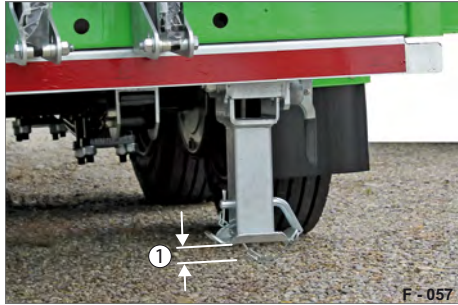

Fig. 41 Support feet adjusted
- ▶ After folding down and, if necessary, adjusting the folding supports, check whether there is still an air gap (Fig. 41/1) between the ground and the levelling foot plate.